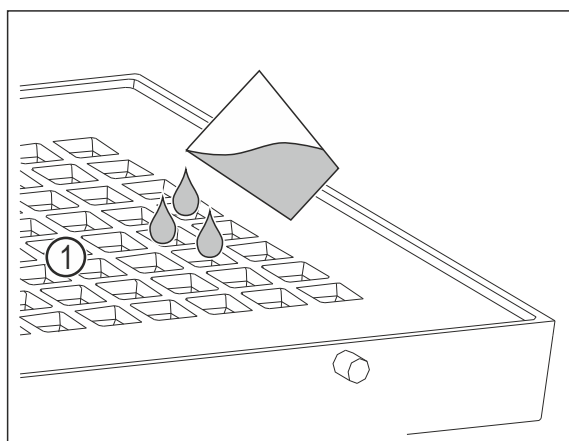

Fig. 120
- Fill with a maximum of 400 ml of water through the holes Fig. 120 (1) in the cover.